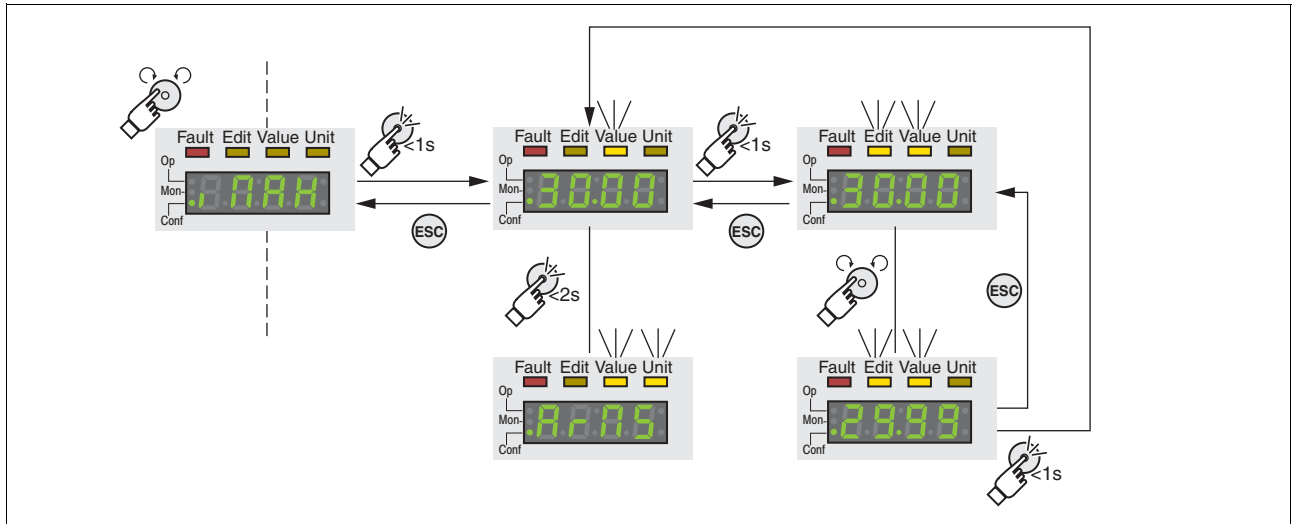

Figure 7.5 Integrated HMI, example of setting a parameter
- The parameter, *PARH* (iMax) is shown on the 7-segment display, see Figure 7.5.